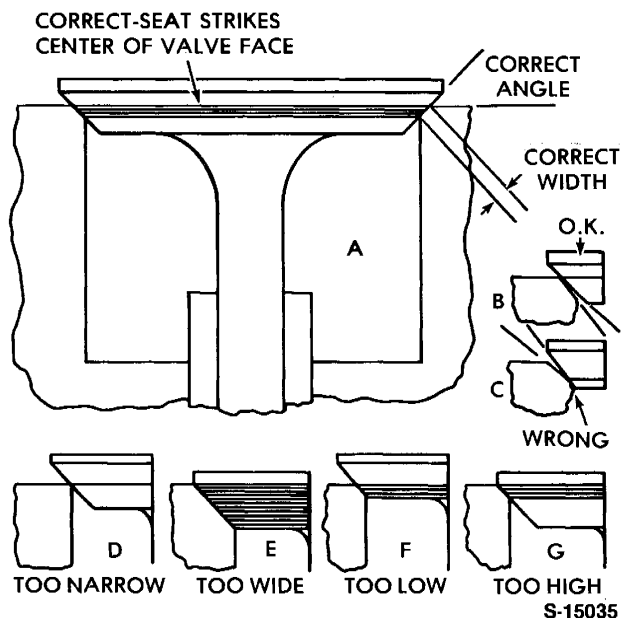

Figure 14
Check the location of the valve seat contact on the valve face and regrind the seat to specification, Figure 14.
**Caution:** Exercise care in grinding seats so as to not remove too much material and ruin seat, Figure 14.